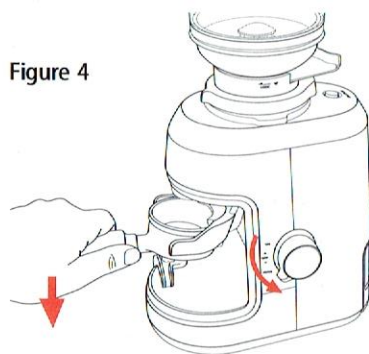

Figure 4
8. Turn the dial to the auto position and gently press down on the handle to grind into the basket. See figure 4.